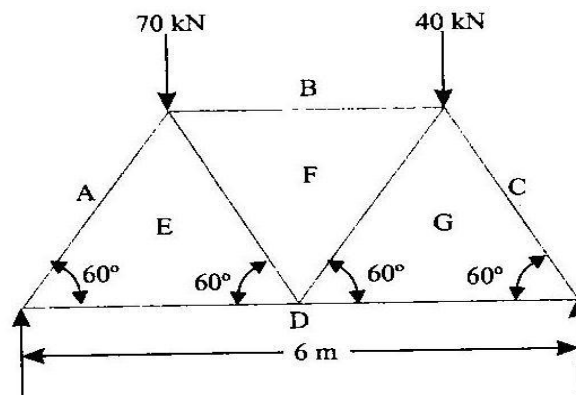

Figure 1
- (b) A steel bar is placed between two copper bars each having the same area and length as the steel bar at 15°C . At this stage they are rigidly connected together at both the ends. When the temperature is raised to 315°C , the length of the bar increases by 2mm . Determine the original length and final stresses in bars. Take $E_S = 220 \text{ GN/m}^2$, $E_C = 110 \text{ GN/m}^2$, $\alpha_s = 0.000012 \text{ per } ^\circ\text{C}$ and $\alpha_c = 0.0000175 \text{ per } ^\circ\text{C}$. (16)
12. (a) A girder freely supported at ends is loaded as shown in figure 1. Find the forces in the members. (16)